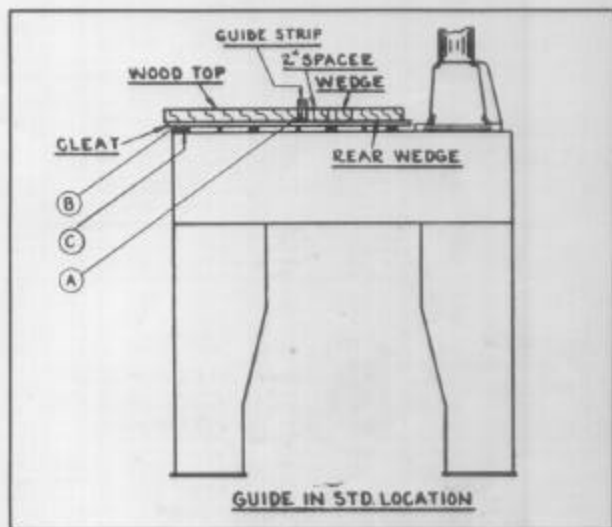

FIGURE 5—Model GP
The arm tracks must be parallel to the table top at all points. A parallel condition assures uniform depth of cut ... especially in dadoing, etc. If the work table top ever gets out of level on the Model GP ... you can adjust this. Refer to Figure 5 (B) and (C).